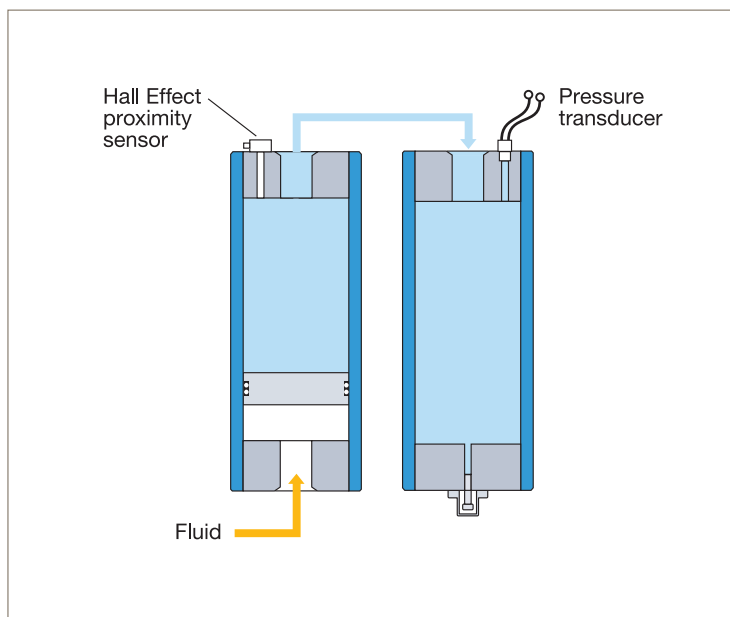

Fig. 14b Hall Effect sensor registers proximity of piston to end cap
Several methods can be used to monitor the precharge pressure of Parker’s piston accumulators. Note that, in **Fig. 14b**, the flat piston must be used to enable the sensor to register its position.
- **In applications where an accumulator is coupled to a gas bottle:** A Hall Effect proximity sensor can be installed in the accumulator gas end cap (**Fig. 14b**) to detect when the piston comes within .050 inch of the cap. This system would provide a warning when precharge pressure has dropped and remedial action should be taken.